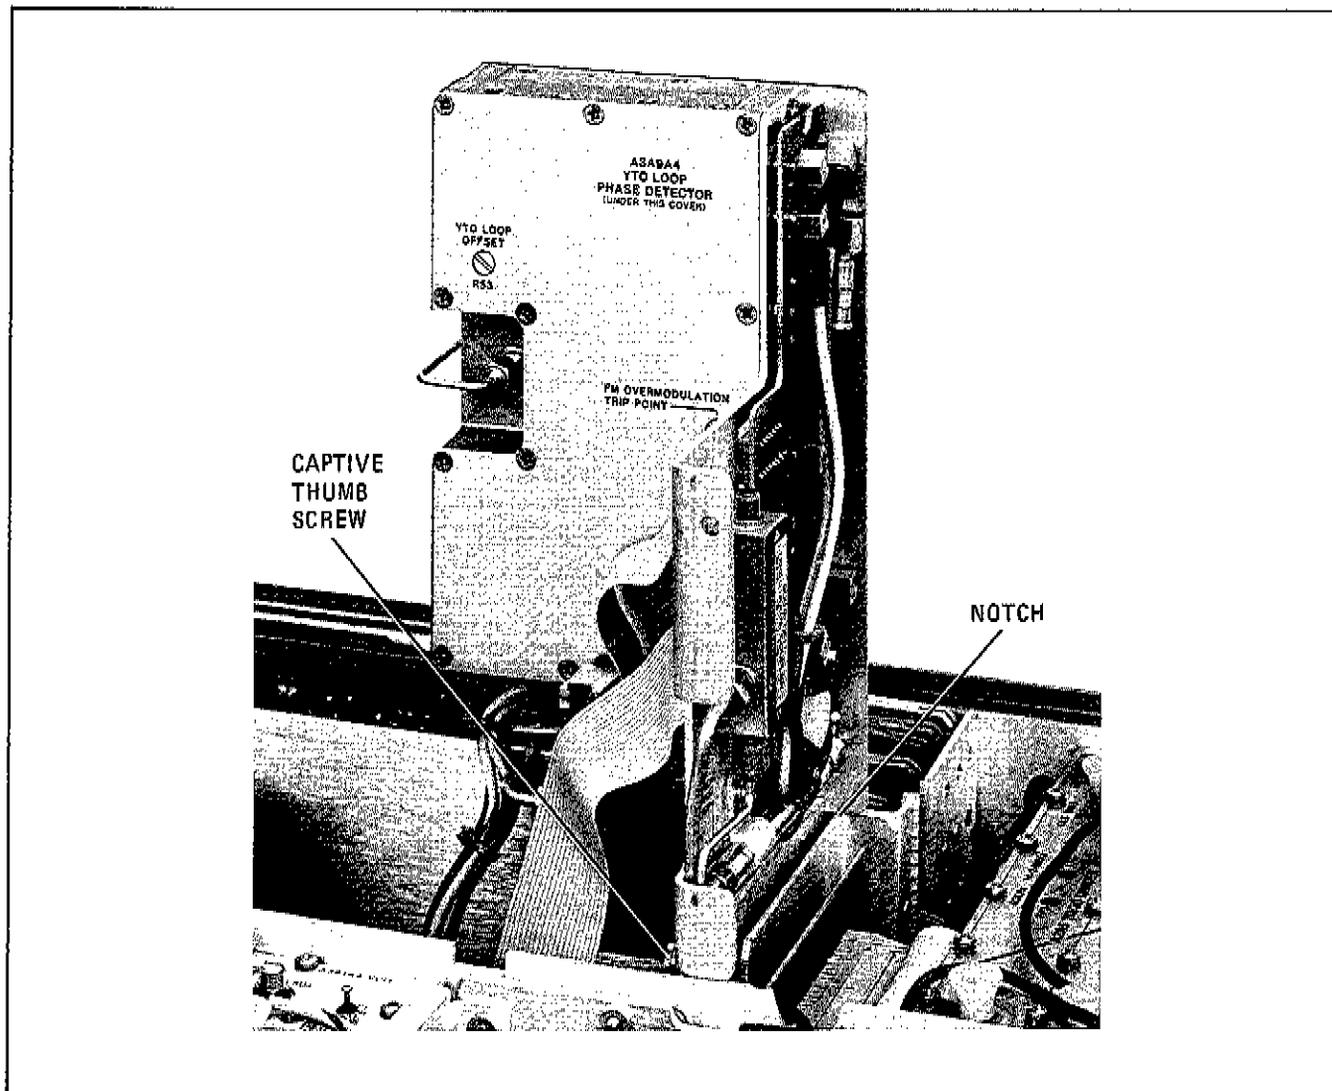

Figure 8-5. A3A9 Assembly in Service Position
- e. Lift the assembly out until it clears the surrounding assemblies. Hook the front edge of the assembly over the front edge of the A3 Assembly as shown in Figure 8-5.